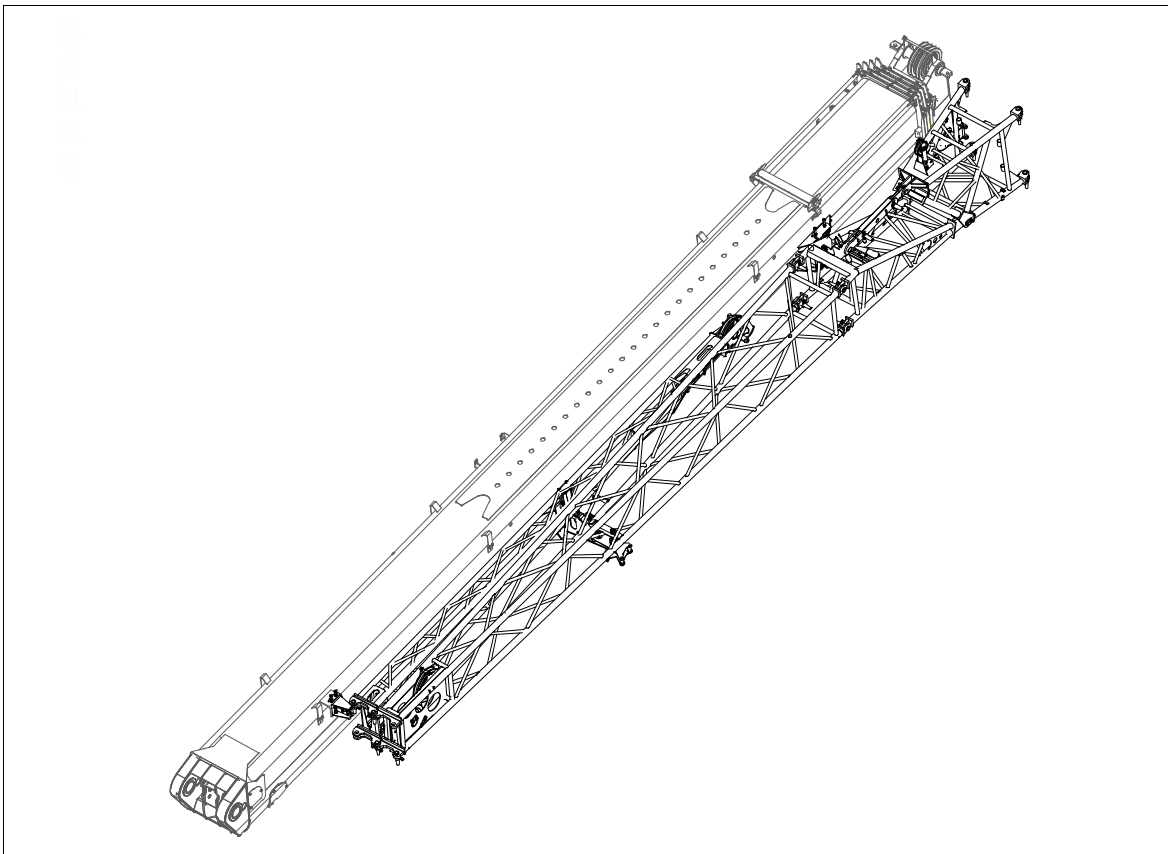

Figure 7-32 Jib assembly
- E. Fully retract the boom, move the boom to the front of the crane and position it to -2° . Refer to Figure 7-32.